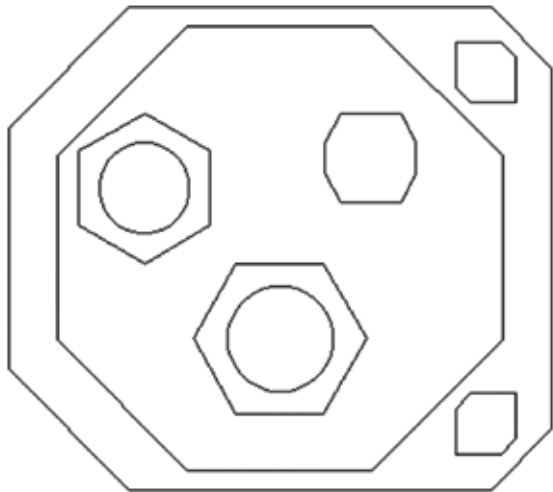

Figure 11.10
- Your drawing should now look like Figure 11.10.